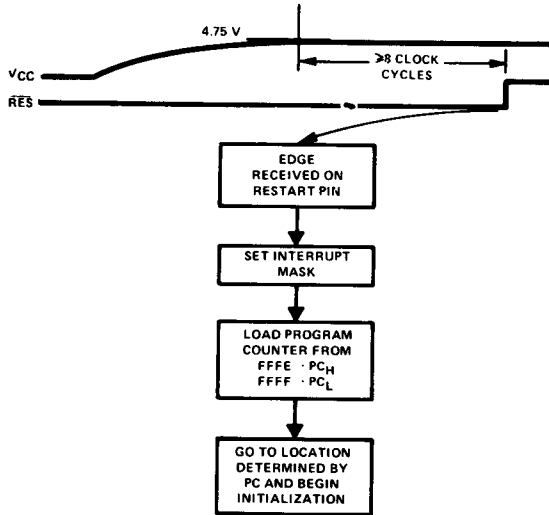

Fig. 9.7 Restart sequence
eight clock cycles, the $\overline{\text{RES}}$ line may be allowed to go high to signal the MPU to begin the restart sequence. The contents of the ROM location addressed by FFFE will be placed in the most significant byte of the program counter, and the contents of the ROM location addressed by FFFF will be placed in its least significant byte. The program counter now contains the address of the initializing routine. During the restart sequence (Fig. 9.7), the interrupt mask bit (I)